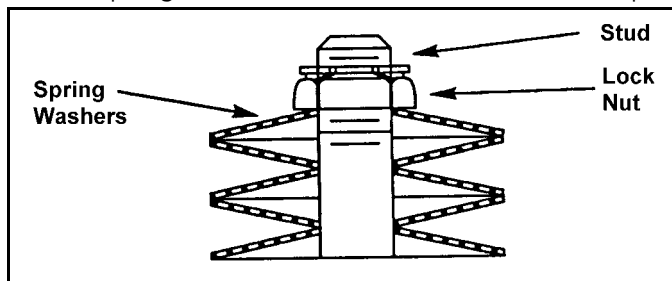

Figure 2 – Spring Washer Arrangement
5. Assemble the cover, pointer and wrenching square. Place the spring washers on the stud as shown in Figure 2, tighten the lock nut until the spring washers are completely compressed, and then loosen the lock nut until the spring washers return to their normal shape.